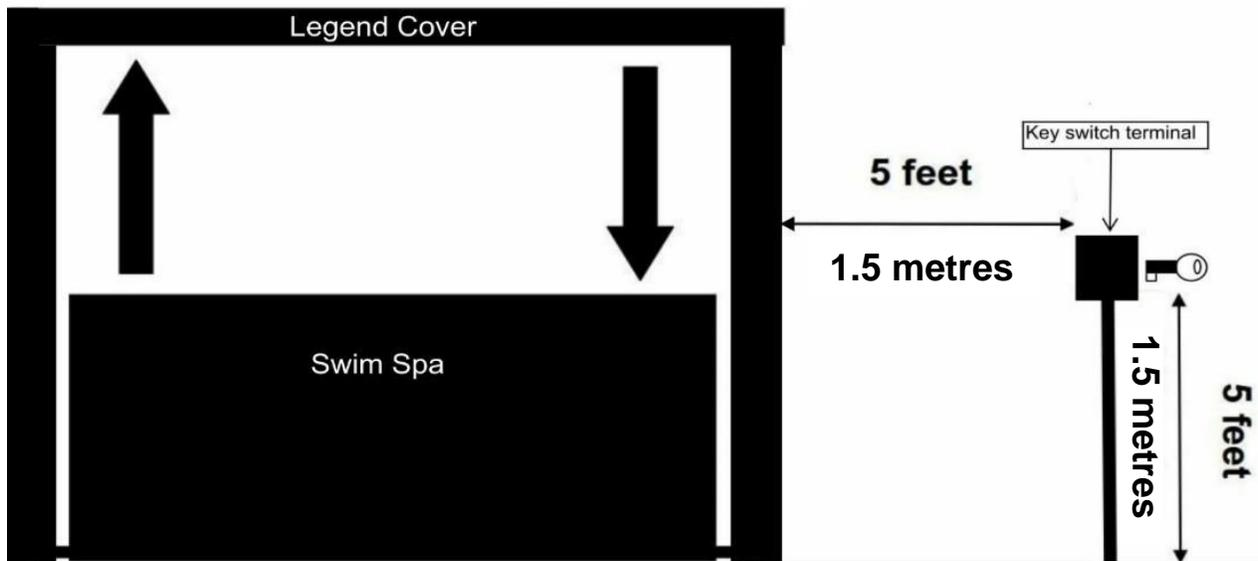

Figure 32
- ◆ The key switch must be permanently mounted and located 5' (1.5 m) away from the swim spa and 5' (1.5 m) above the deck or ground level. Ensure the user has a clear view of the COVANA cover when operating it. Furthermore, the key switch terminal should be located in a place where no water or debris could fall on it from another rooftop (Figure 32).